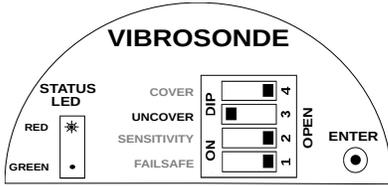

Figure 13: Uncover Delay Switch Position
2. Set the UNCOVER switch to CLOSE (Opposite of OPEN in a DIP switch) position as shown in Figure 13.